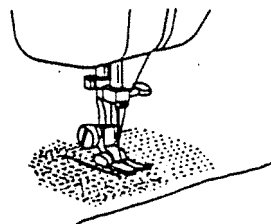

Fig. 36
- 2) Then sew according to the woof across the broken part. (Fig. 36)